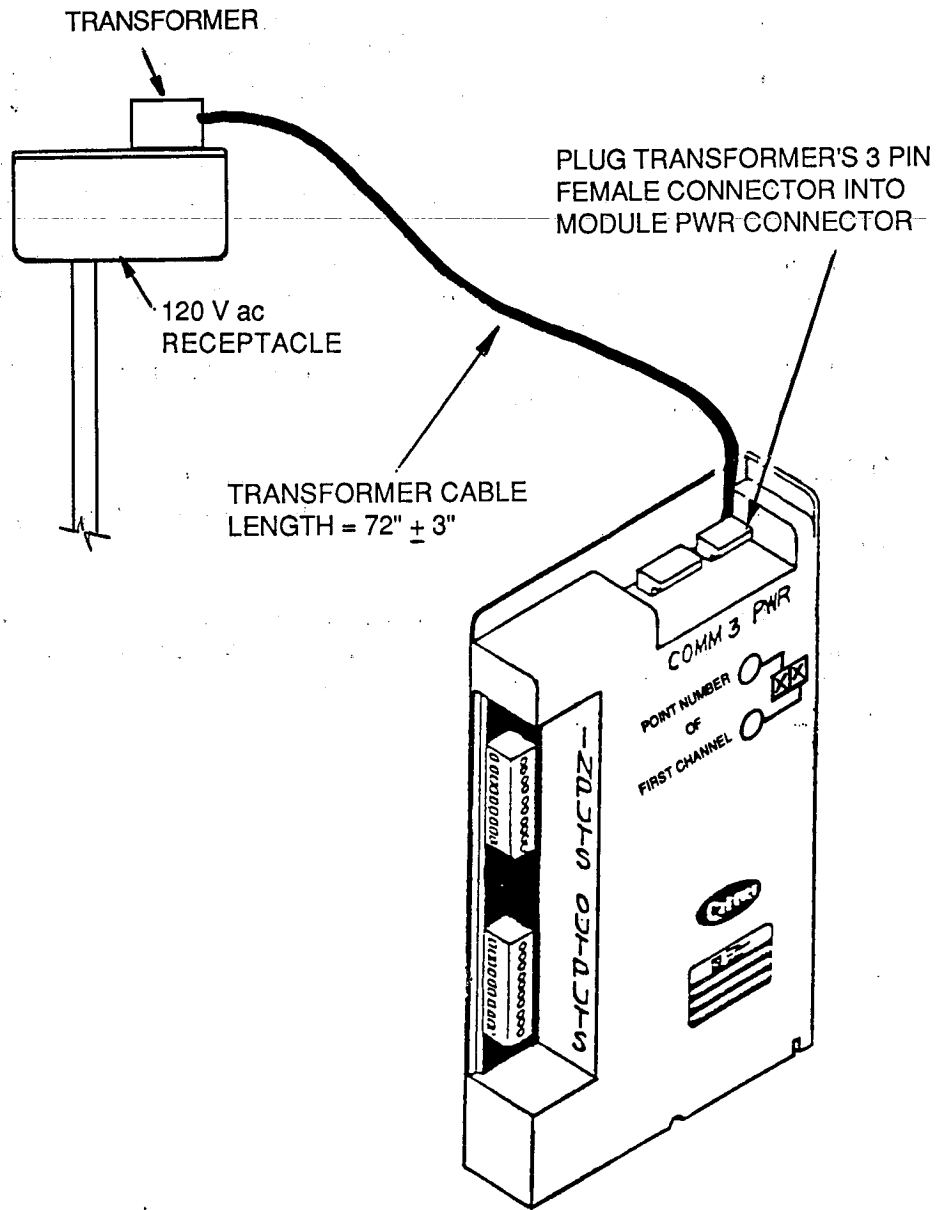

Figure 16 - Remote Module - Powered by a Local Power Supply
3. Plug the 3 pin female connector from the power transformer into the connector labelled *PWR* on the module. Refer to Figure 16 on the next page.